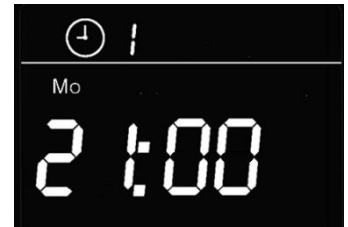

Figure 6 - SC Preheater starting time activated
- Push  to activate starting time: Activated starting time appears in the display (figure 6)